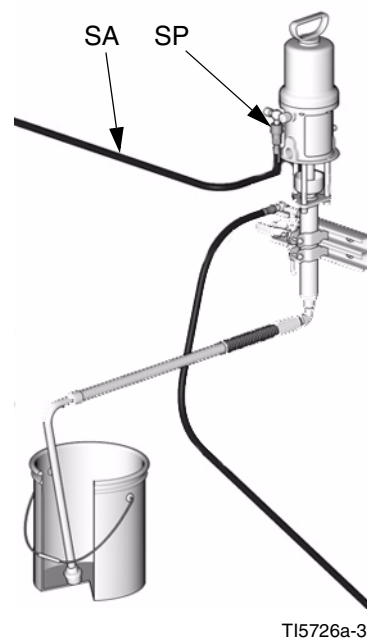

FIG. 6: Connect Air Lines
- a.** See FIG. 6. Shut off air valves (A2, A3) at feed pumps.
- b.** Connect 15 ft (4.6 m) resin feed pump air line (RA) to quick disconnect fitting at tee (AT). This line supplies air to resin feed pump (RP) and agitator (J).
- c.** Connect 15 ft (4.6 m) hardener feed pump air line (HA) to quick disconnect fitting (QD) at hardener feed pump air control kit (AC). This line supplies air to hardener feed pump (HP).
- d.** Connect 48 in. (0.2 m) solvent air line (SA) to solvent pump (SP) air inlet.